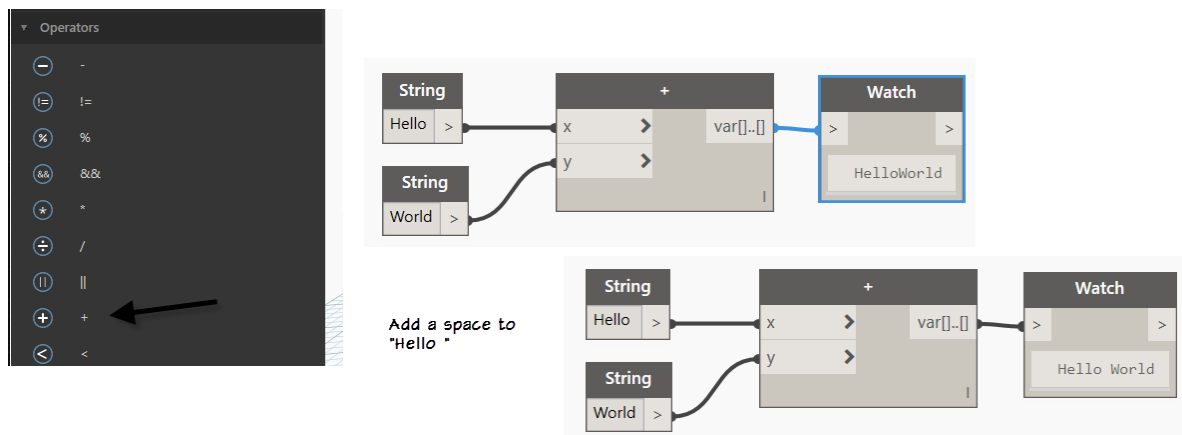

Figure 14
14. Wire "Hello" into **x** and "World" into **y**. Then wire the output of + to the input of the **Watch** node (see Figure 14).